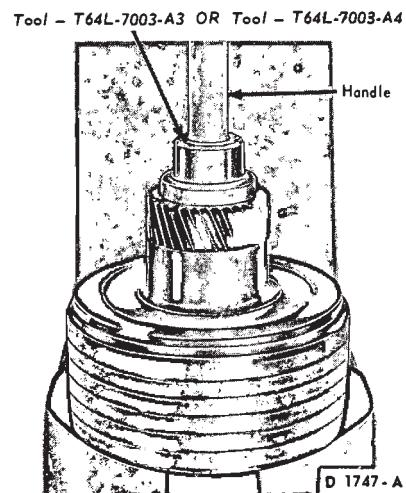

FIG. 33—Installing Rear Clutch Sun Gear Bushing
7. Press a new bushing into the rear clutch sun gear with the tool shown in Fig. 33.